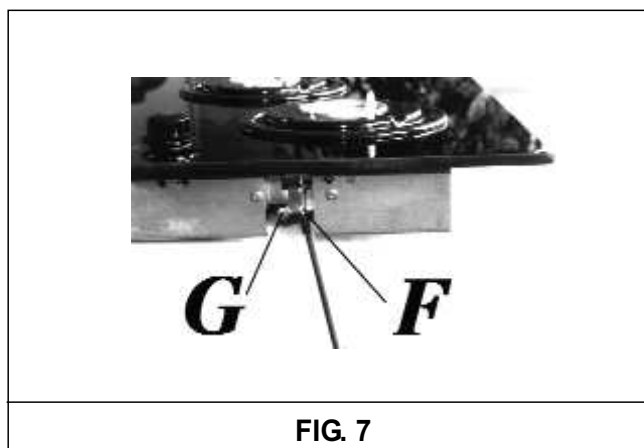

FIG. 7
- fix the hooks in the relative accommodations of the body (see fig. 7).